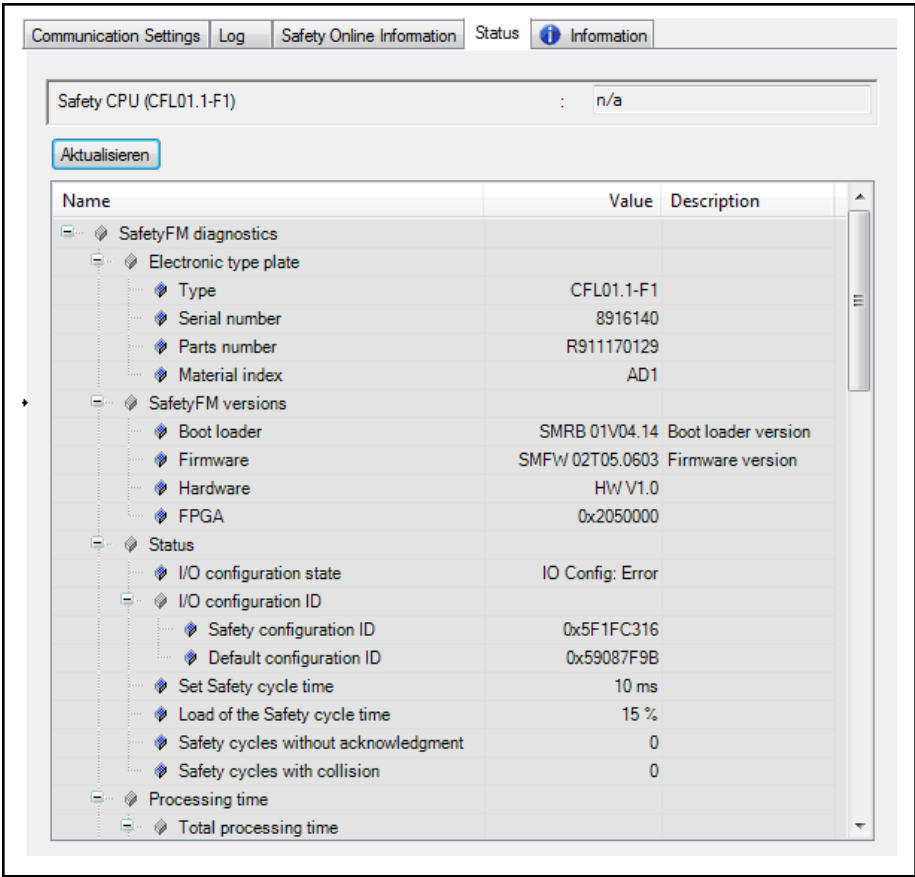

Fig. 7-1: "Status" tab
**Cause:** The config ID of the standard control is not equal to the one of the Safety control (see fig. 7-1 "Status tab" on page 68)